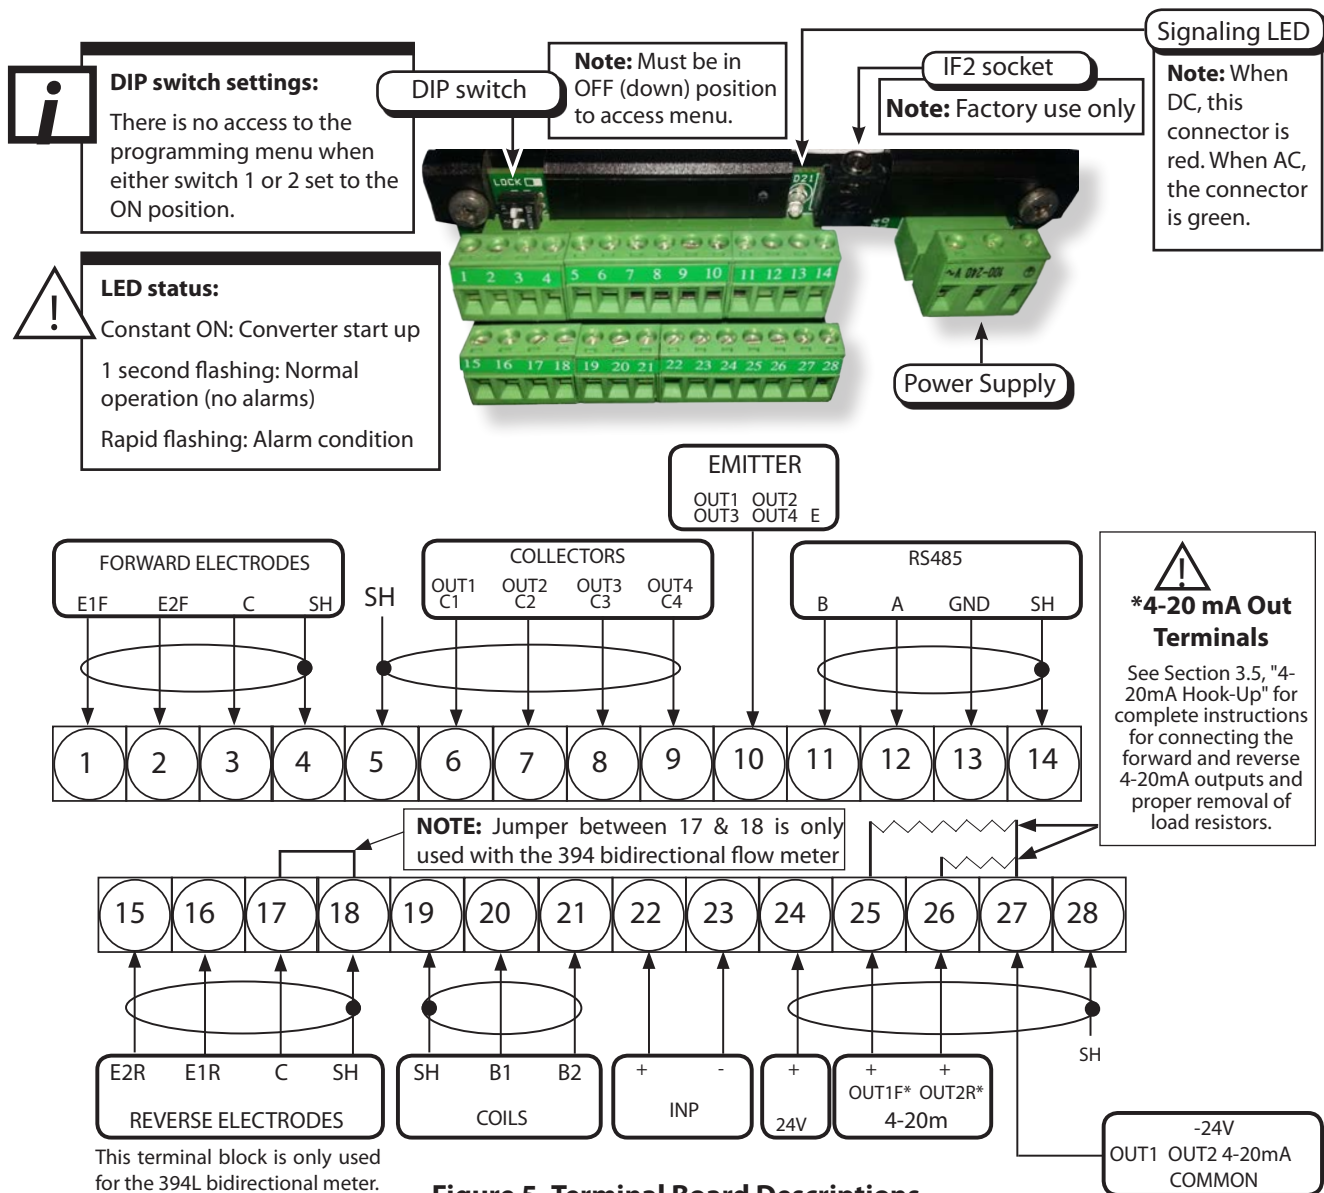

Figure 5. Terminal Board Descriptions
***IMPORTANT:** The 394 Bidirectional meter wiring requires a jumper between terminals 17 and 18. See note in Figure 5.
See Section 3.1, "Terminal Board", Figure 5.